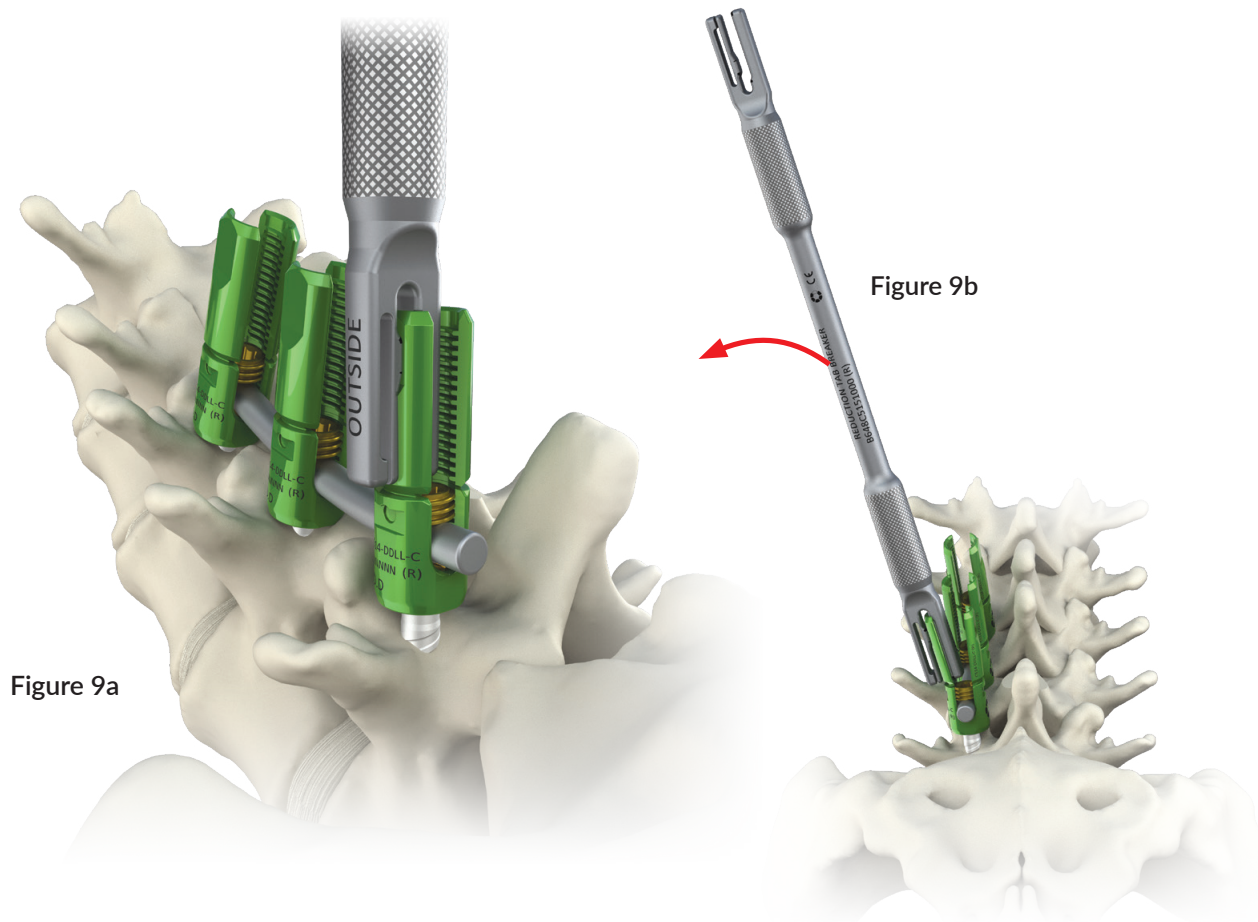

Figure 9a
- Slide the Reduction Tab Breaker over one extended tab at a time so that the “INSIDE” marking is positioned inside the tulip and the “OUTSIDE” marking is positioned outside the tulip. Ensure the Reduction Tab Breaker is fully seated prior to breaking the tab. **(Figure 9a)**